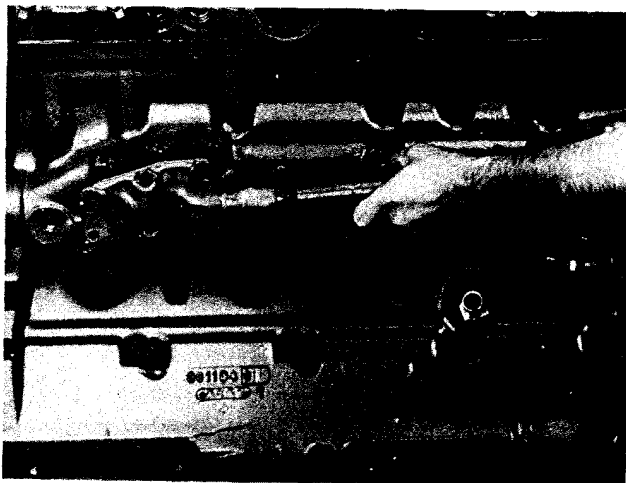

Fig. 0-9, (N100141). Removing by-pass tube and water header
2. Remove by-pass tube and water header cover plate (Fig. 0-9) discard "O" rings.